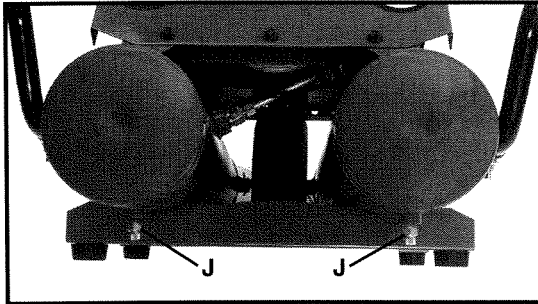

Fig. 4
**Drain Valve (J) Fig. 4:** A drain valve is located at the base of each air tank and is used to drain condensation at the end of each use.